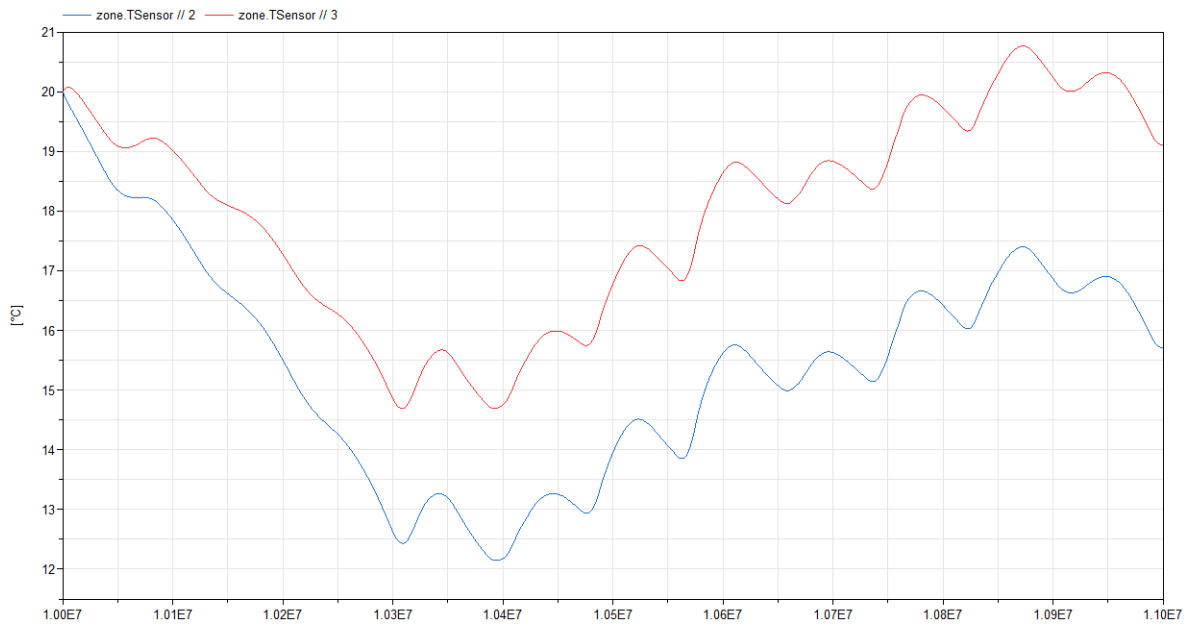

Figure 3: Zone temperature with (red) and without (blue) occupant and lighting.
**Reference result** The result with and without the occupant and lighting is plotted in Figure 3. If you observe no difference between both results, it is likely that you forgot to set the number of occupants, which is an option of IDEAS.Buildings.Components.Occupants.Fixed with a default value of 0.